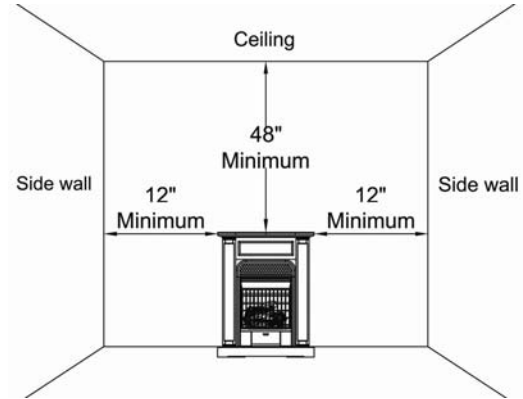

Figure 4 – Minimum Clearance to Wall and Ceiling
**IMPORTANT:** You must maintain minimum wall and ceiling clearances during installation. The minimum clearances are shown in Figure 4, page 10. Measure from outermost point of fireplace.
(See Figure 4)